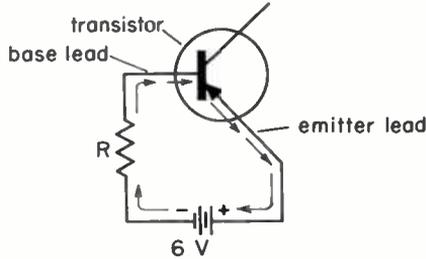

Fig. 24
2. You often use Ohm's law to find the correct value for a resistor to use in a transistor circuit. For example, a transistor won't work right unless a DC current of the correct value (called the *bias current*) flows through the transistor between base and emitter, as shown in Fig. 24. Suppose that, for proper operation of the transistor in Fig. 24, the bias current should be 0.003 A. What resistance value should be used for R in order to hold the current to the right value? (You can assume that the resistance inside the transistor is negligible.)